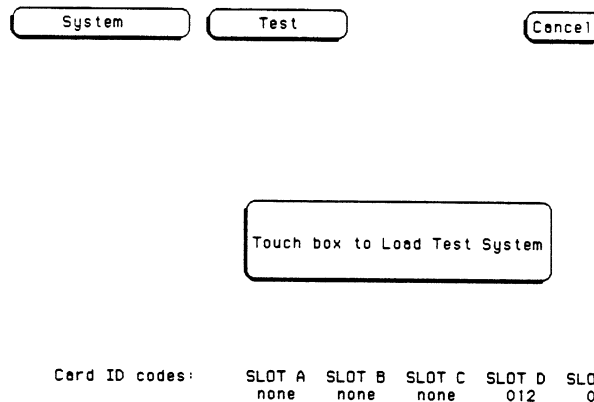

Figure 6-5. Load Test System
- c. Touch box to load **Test System**. See figure 6-5.